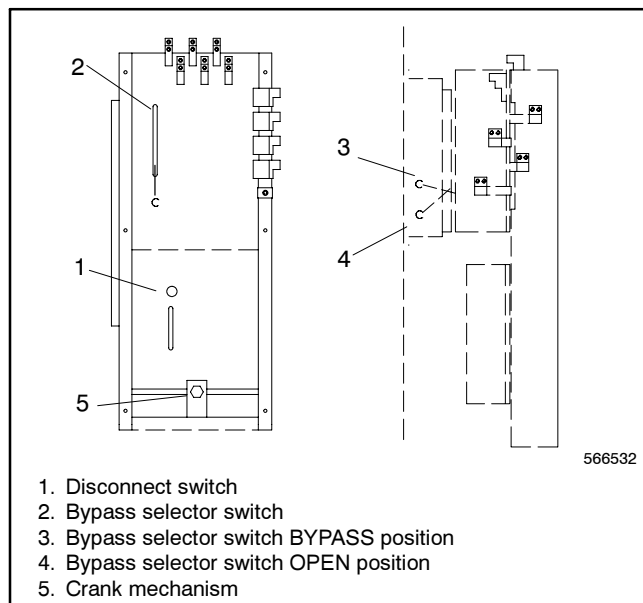

Figure 2-6 Bypass Switch Crank Mechanism Location
1. Open the cabinet door. See Figure 2-6.